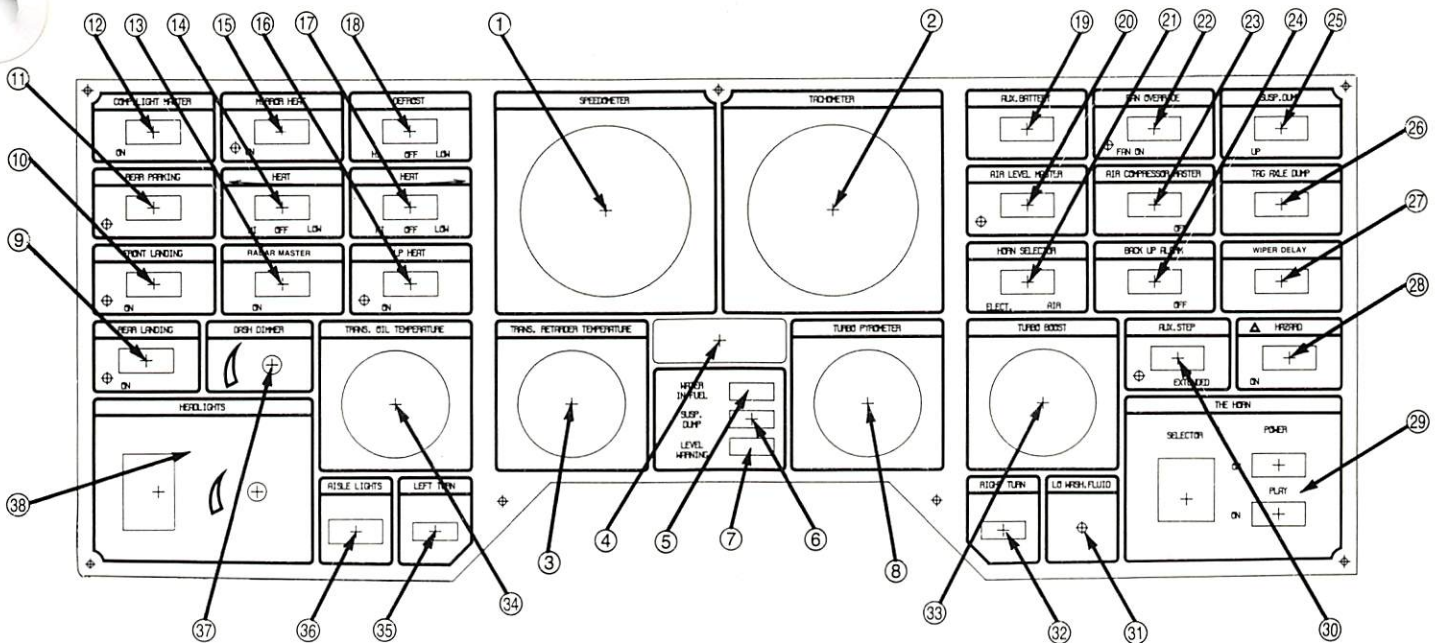

Figure 2-4. Lower Dash Panel
②⑤ **SUSP. DUMP** Switch — This switch controls the inflation of the air suspension systems for the front and rear axles. Move switch to the right to dump the bags. Note that **SUSP. DUMP ACCESSORY WARNING** light is lit: set switch to **UP** position to re-inflate the air bags before driving away. (System air pressure must be at least 65 psi.)
②⑥ **TAG AXLE DUMP** Switch — In **UP** position tag axle air suspension is pressurized as indicated on dash gauge **TAG AXLE PRESSURE**. When switch is moved right pressure in tag axle is dumped.
②⑦ **WIPER DELAY** — Knob adjusts wiper speed from 2 to 20 sweeps per minute when intermittent operation is selected at steering column switch lever.
②⑧ **HAZARD** Switch — This switch turns on the emergency flashers. When switch is used both turn signals will flash in unison.
②⑨ **THE HORN**, Figure 2-4 — This corner of the dash has 3 different switches for use with the musical horn.